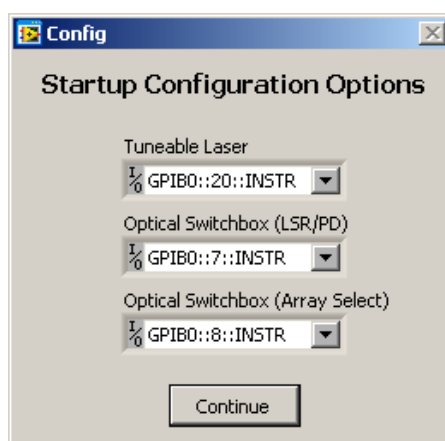

Figure 2.10.1: Start-up Configuration Options
2. Confirm that the I/O configurations are as shown in Figure 2.10.1 and select continue.